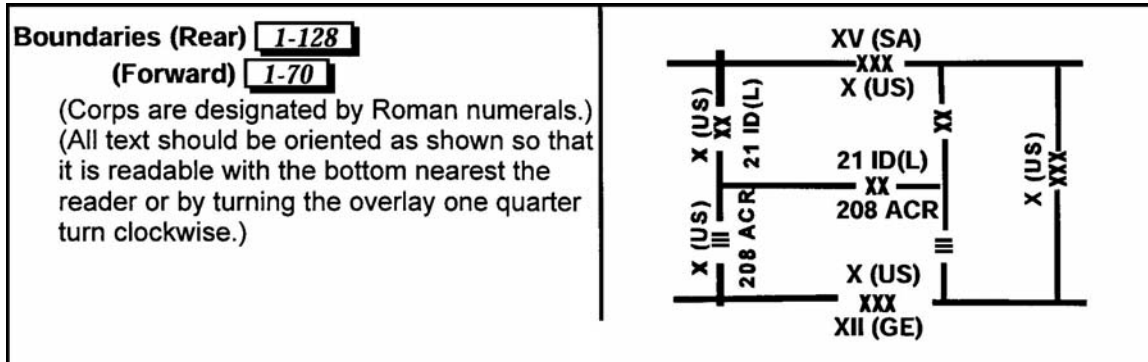

Figure 1. Rear boundary.
- (1) Boundaries showed the areas of tactical responsibility. In the offense, these are referred to as zones of action. In the defense and retrograde, they were referred to as sectors of responsibility. When described orally, lateral boundaries were described from rear to front in the offense and from front to rear in the defense and retrograde.
- (2) Rear boundaries were used when the area of responsibility for forward units must be precisely defined. When a rear boundary was not delineated, the rear limit of a unit's area of responsibility was determined by visualizing a rear boundary drawn generally parallel to the front, along a natural terrain feature, and connecting at the rearward limit of the unit's lateral boundaries.
- (3) Marked rear boundary as shown, the size indication along the boundary corresponds to the low unit. Arm or branch was shown when required to prevent confusion (Figure 1).